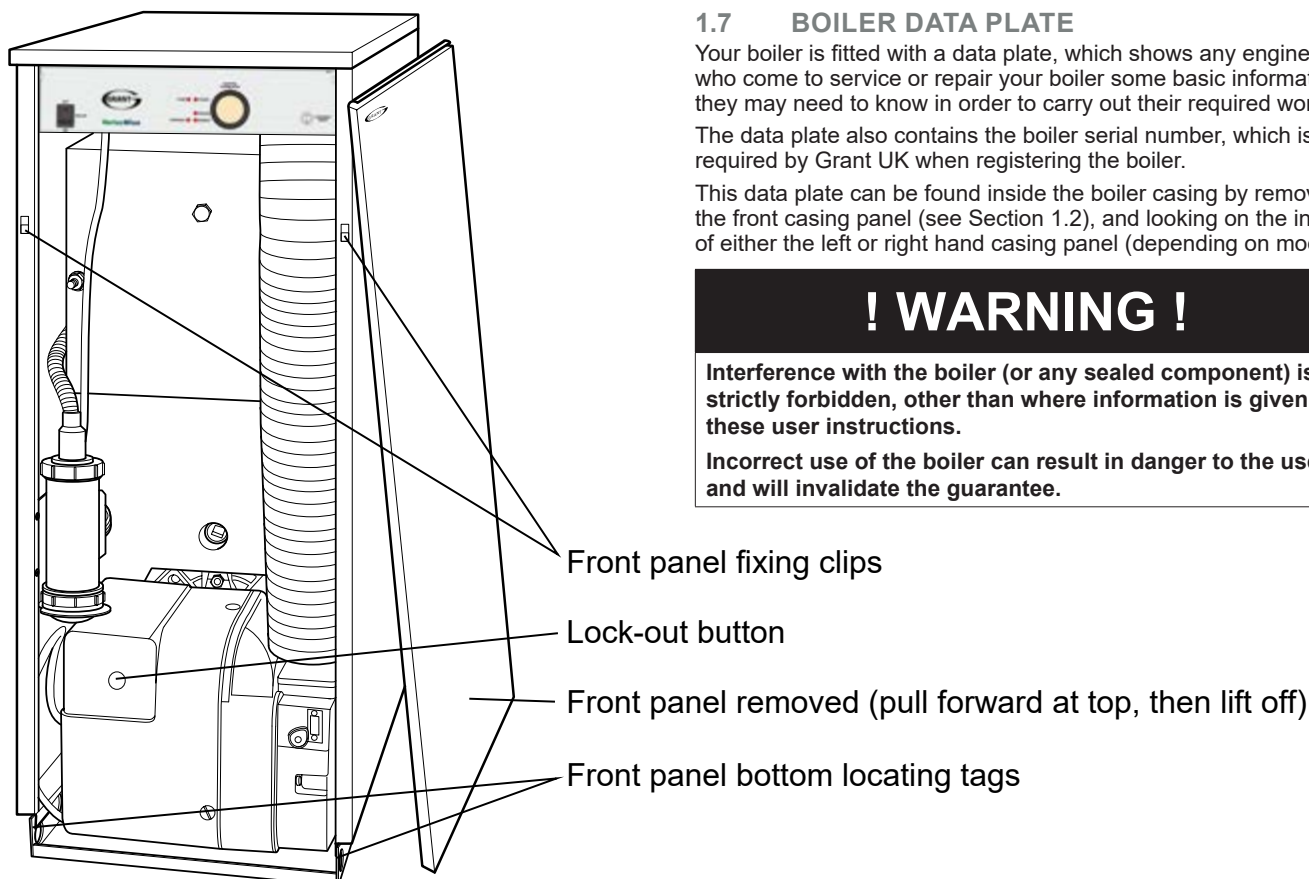
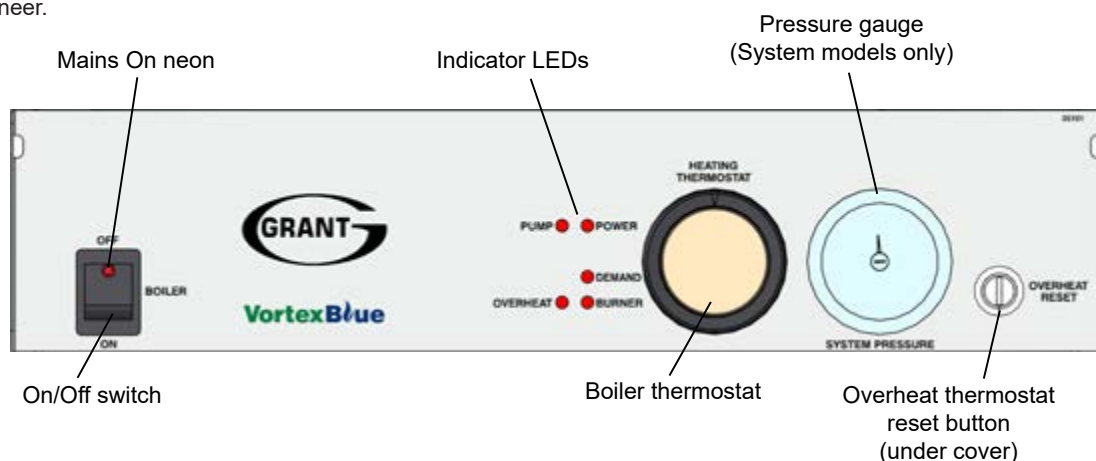

Figure 1-1: Boiler components
Figure 2-1: VortexBlue Internal boiler control panel
Internal boilers have a 'mains on' neon, see Figure 2-1, which lights when the boiler is switched on.
To gain access to the boiler controls, pull the front panel forward at the top to disengage the fixing clips, then lift it up and off the boiler, as shown in Figure 1-1.
5. Check if the burner 'Lock-Out' reset button on the burner body (refer to Figure 1-1 for location) is lit.
Refer to Figure 1-1 for the location of the control panel within the boiler casing and Figure 2-1 for the details of the control panel.
To reset the overheat thermostat, unscrew the small plastic cap marked "reset" (see Figure 2-1), press the button and replace the cap.
These 5 red lights, located on the boiler control panel, indicate the operating situation of the boiler. Refer to Figure 2-1 for the position of these lights on the boiler control panel.